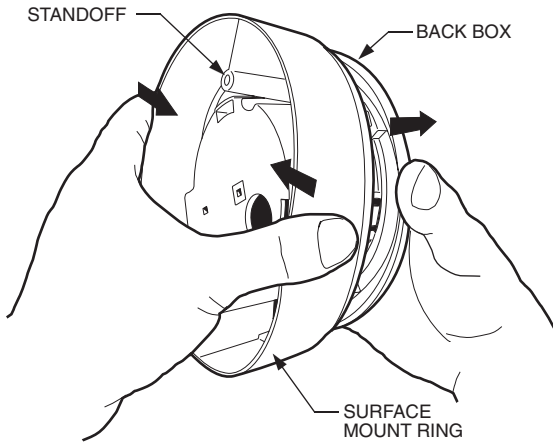

Figure 5. How to Remove Surface Mount Ring from Back Box
3. Remove the surface mount ring from the back box (refer to Figure 5 on page 10):
2. Remove the surface mount ring from the back box (refer to Figure 5 on page 10).